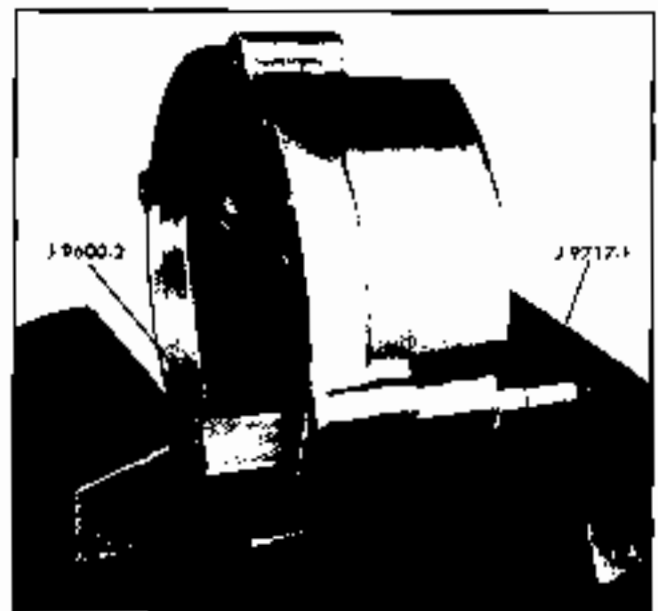

Fig. 6E-24 Installing Diodes - Standard Generator
1. With stator removed, support slip ring end frame in vise or arbor press with J 9717-2 against casting and position remover J 9717-1 against diode as shown in Fig. 6E-23.